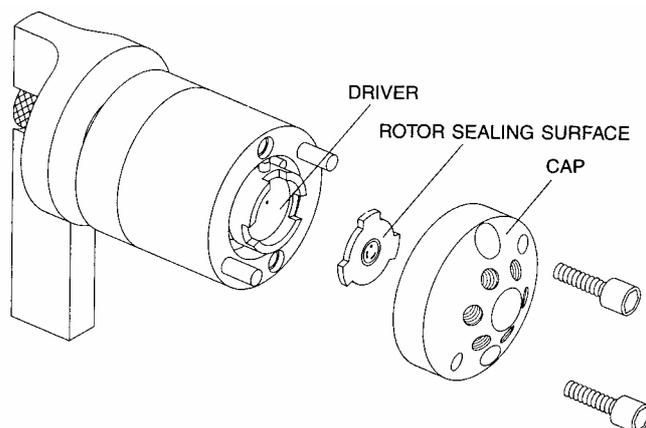

FIGURE D-1 Exploded View of the Valco Model C1 Valve
- a) Use a 9/64" hex driver to remove the socket head screws which secure the cap to the valve (FIGURE D-1)